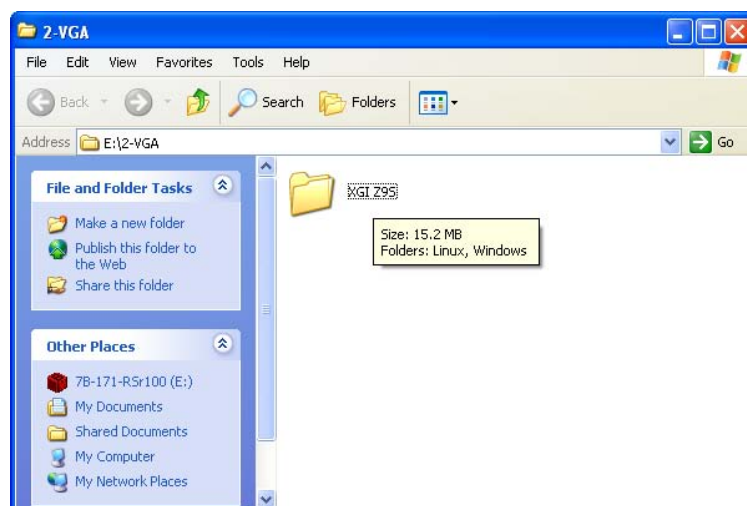

Figure 8-11: XGI Directory Icon
Step 2: The screen in **Figure 8-11** appears.